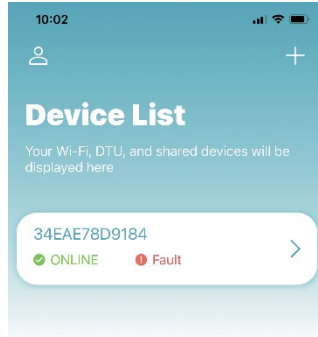

Fig. 14: Device Management
- Once complete, you will enter the device management menu (Fig. 14) where you can go into the unit to view and adjust the settings.